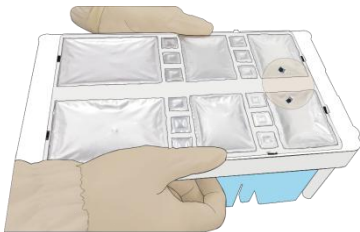

Figure 7-5: Mix reagents after loading
- Place the cartridge horizontally on the table, hold both sides of the cartridge with both hands (see Figure7-5). Shake it clockwise 10-20 times, and then counterclockwise 10-20 times, until the reagent color in well No.1 is uniform. Make sure that you see the vortex to ensure reagents are fully mixed. The FCL SE50 or FCL SE100 sequencing cartridge is now ready for use.
- Place the cartridge horizontally on the table, hold both sides of the cartridge with both hands (see Figure 7-5). Shake it clockwise 10–20 times, and then counterclockwise 10–20 times, until the reagent color in well No.1 is uniform. Make sure that you see the vortex to ensure reagents are fully mixed. The FCL SE400 sequencing cartridge is now ready for use.
- Place the cartridge horizontally on the table, hold both sides of the cartridge with both hands (see Figure7-5). Shake it clockwise 10-20 times, and then counterclockwise 10-20 times, until the reagent color in well No.1 is uniform. Make sure that you see the vortex to ensure reagents are fully mixed.
① **Note:**
- Place the cartridge horizontally on the table, hold both sides of the cartridge with both hands (see Figure7-5). Shake it clockwise 10~20 times, and then counterclockwise 10~20 times, until the reagent color in well No.1 is uniform. Make sure that you see the vortex to ensure reagents are fully mixed. The SE400 sequencing cartridge is now ready to be used.
- Place the cartridge horizontally on the table, hold both sides of the cartridge with both hands (see Figure 7-5). Shake it clockwise 10–20 times, and then counterclockwise 10–20 times, until the reagent color in well No.1 is uniform. Make sure that you see the vortex to ensure reagents are fully mixed.